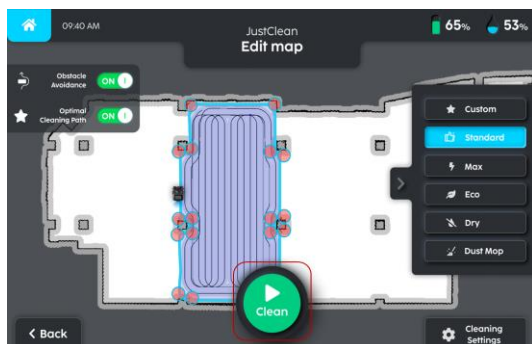

FIGURE 5-17
4. User may adjust cleaning zones or change cleaning setting for map (Fig. 5-17).
5. Place the handle bar down then press 'CLEAN' (Fig. 5-17).